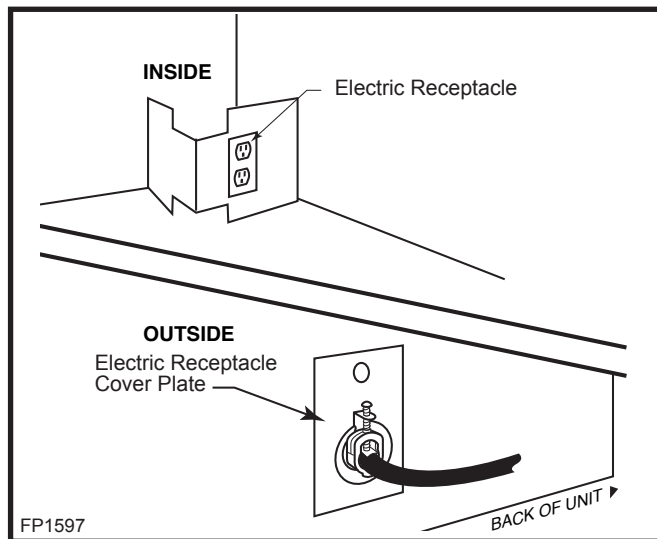

Fig. 9 Electric receptacle.
1. Unscrew the retaining screw holding the electric cover to the outside of the unit. (Fig. 9)